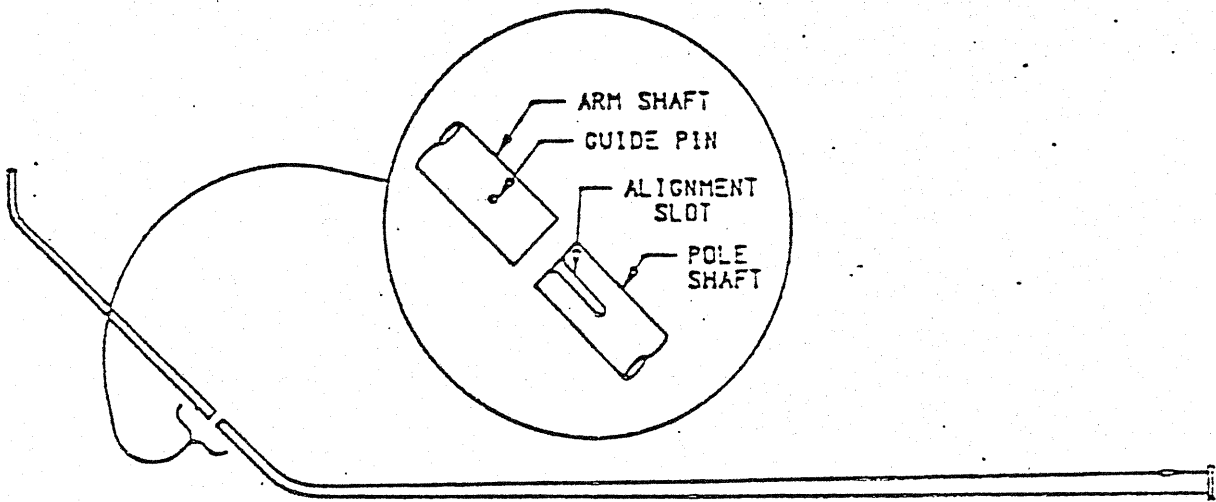

FIGURE 1
1. LAY STRUCTURE ON ITS SIDE WITH GUIDE PIN AND SLOT IN ALIGNMENT. SEE FIGURE 1.